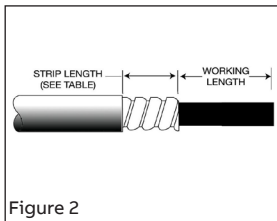

Figure 2
- Trim the outer jacket to expose the armor strip length as indicated in the table (Figure 2).